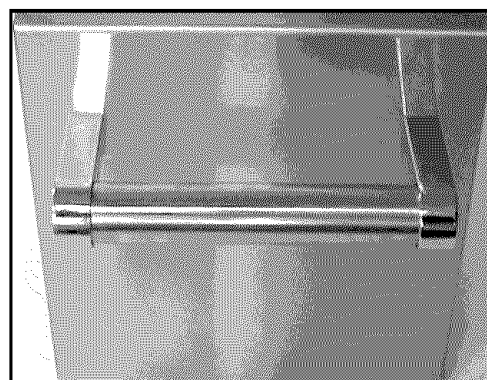

Fig. 11
3. Complete Door. (See. Fig. 11)